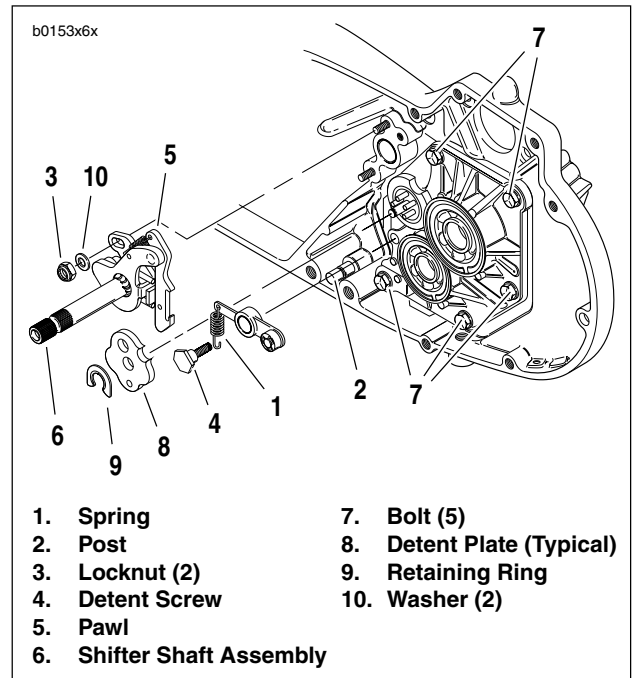
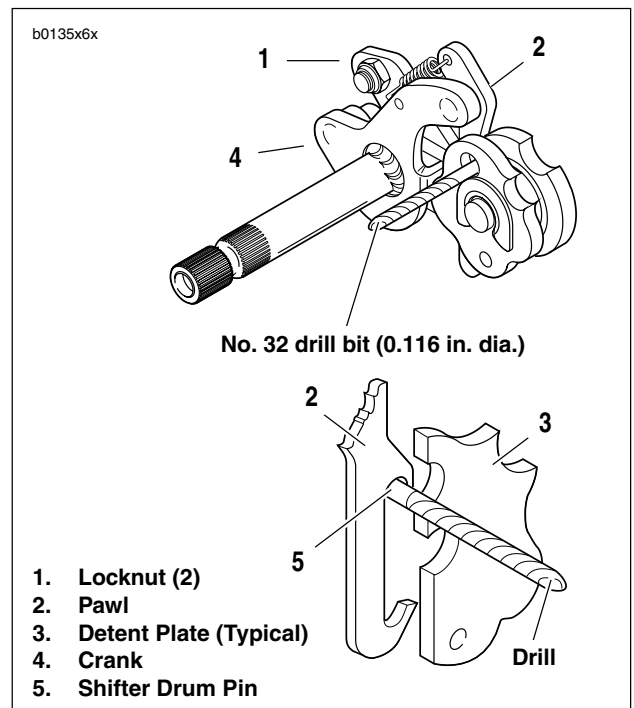

Figure 6-56. Installing Access Door
Figure 6-57. Shifter Shaft Assembly Alignment
2. See Figure 6-56. Install access door.
- a. Apply a few drops of LOCTITE THREADLOCKER 243 (blue) to all five access door mounting bolts (7).
3. Lift pawl (5) over drum pins and place shifter shaft assembly (6) on studs at transmission case. Loosely install a washer (10) and locknut (3) on each stud.
4. Attach loop of spring (1) over and into groove in post (2).
- a. Place detent plate (8) over drum pins.
- c. Install **new** retaining ring (9) using SHIFT DRUM RETAINING RING INSTALLER (Part No. HD-39151).
6. See Figure 6-57. Align shifter shaft.
- b. Place a No. 32 drill bit (0.116 in. dia.) through hole in detent plate (3), and between pawl (2) and drive pin at end of shifter drum shaft.
- c. Push down top of crank (4) to remove all clearance between pawl and drill bit; this will correctly align pawl to shift drum pins (do not push down with too great a force, as this might cause the shifter drum to rotate).
- d. With bit in place, tighten shifter shaft assembly bottom locknut (1) first to 90-110 **in-lbs** (10-12 Nm). Then, tighten shifter shaft assembly top locknut (1) to the same torque.